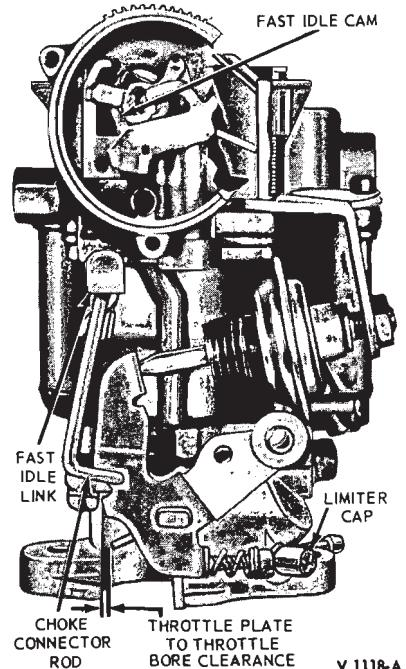

FIG. 19—Fast Idle Speed Adjustment—Carter Model YF 1-V
1. Open the throttle plate and hold the choke plate fully closed to allow the fast idle cam (Fig. 19) to revolve
2. Close the throttle and use a drill with a diameter equal to the specified clearance to check the clearance between the throttle plate and throttle body bore (Fig. 19). To adjust the clearance, bend the choke connector